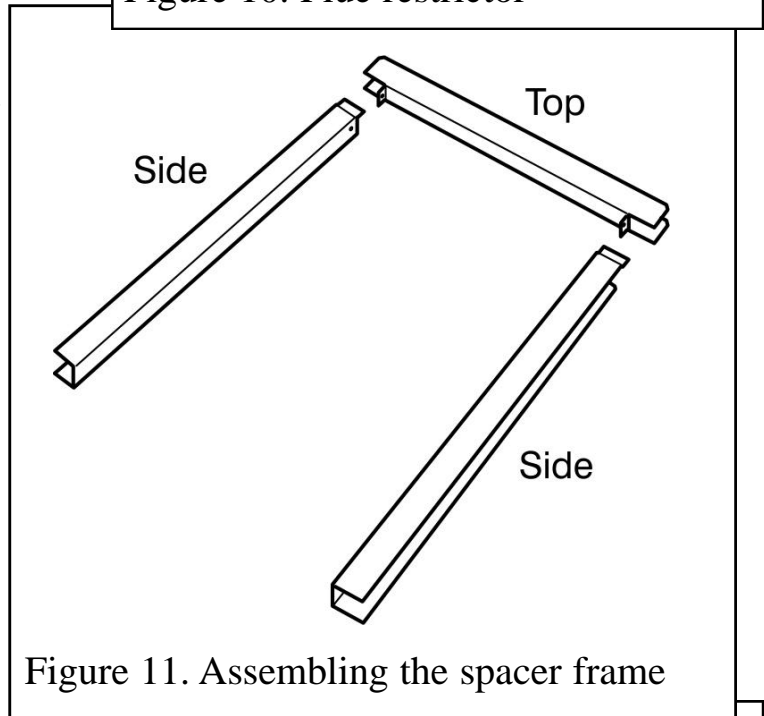

Figure 11. Assembling the spacer frame
7. Supplied with the fire is a spacer frame. This is made up of three separate pieces, a top and two sides. The three pieces are identified in figure 11.